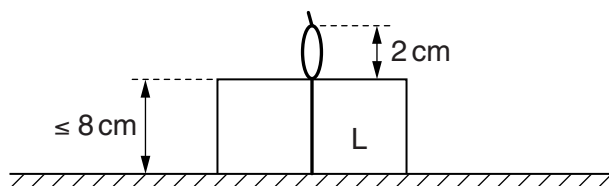

Fig. 1.2
- 4 This mass should be labelled L. It could be a brick or an iron mass or similar, and should not be taller than 8 cm. It should have string tied around it with a loop at the top, and the loop should not project more than 2 cm above the top of the mass, as shown in Fig. 1.2.